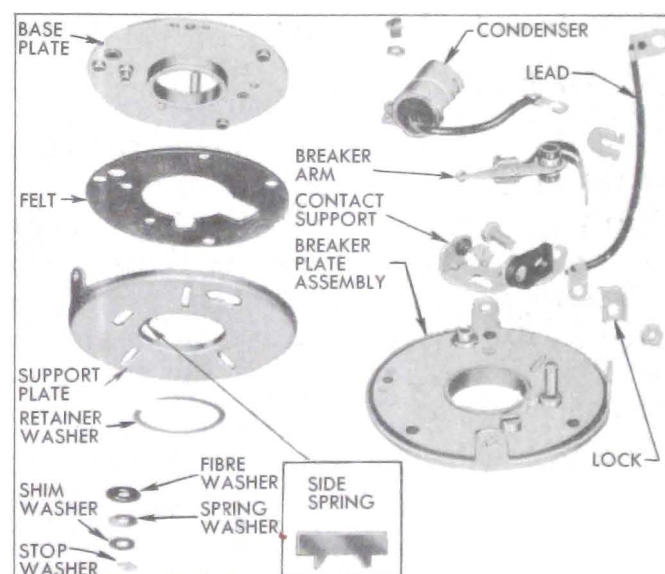

Figure 10-58—Breaker Plate Parts
4. Inspect breaker plate assembly for looseness which would permit tipping or rattling of the base plate. Normally it is unnecessary to disassemble this unit; however, if it is very dirty it may be disassembled for cleaning and inspection. Remove stop washer and shims from base plate post, remove retainer washer from base plate hub and separate the parts. See figure 10-58.
one retainer washer in groove of base plate hub; the hub is staked at four places to provide end play of approximately .015" between base plate and support plate. Place fibre, spring, shim and stop washers on base plate post in the order named. See figure 10-58.